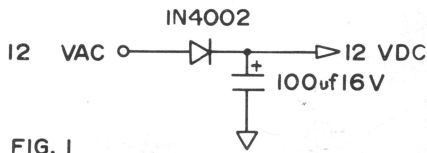

FIG. 1
resistor (in Kohms) use the following formula:  $R = (V - 22) / 8$ . A two watt resistor should be sufficient for voltages up to 200VDC. Refer to figures 1, 2, 3 for additional information. If polarity is reversed to the unit, it will not operate but will not be damaged. Use the following as a guide for obtaining proper operating voltage in different environments:
- Bases—use appropriate figure 1, 2, 3.